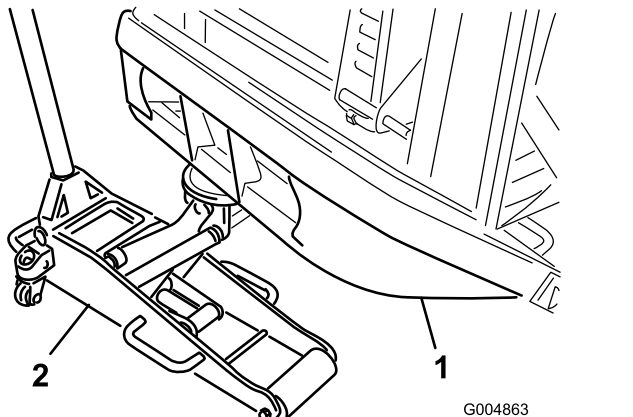

Figure 16
1. Position a suitable floor jack under the rear bumper tube and raise the rear tires off the ground (Figure 16).